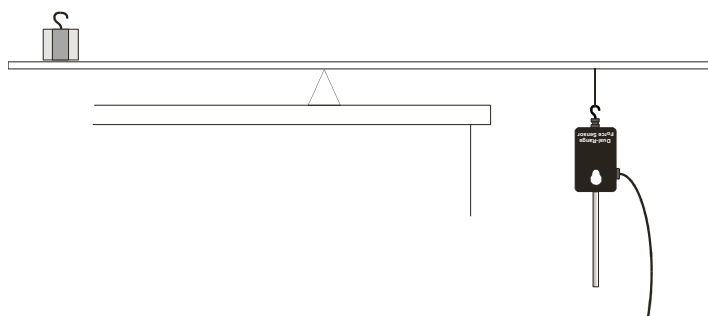

Figure 1
- d. Select CH1-FORCE (N) from the SELECT CHANNEL menu.
- e. Select CH1-FORCE (N) from the SELECT CHANNEL menu.
7. Place a fulcrum near the edge of your lab table. Balance the middle of a meter stick on the fulcrum as shown in Figure 1.
9. Attach the loop of string to the hook of the Force Sensor. Loop the string over the meter stick at the 10 cm line ( $D_e = 40$  cm) as shown in Figure 1. With the fulcrum between the effort and the resistance, this is a first-class lever. Pull down with the Force Sensor until the meter stick is balanced. Record the force needed to balance the meter stick. This is the effort force ( $F_e$ ).